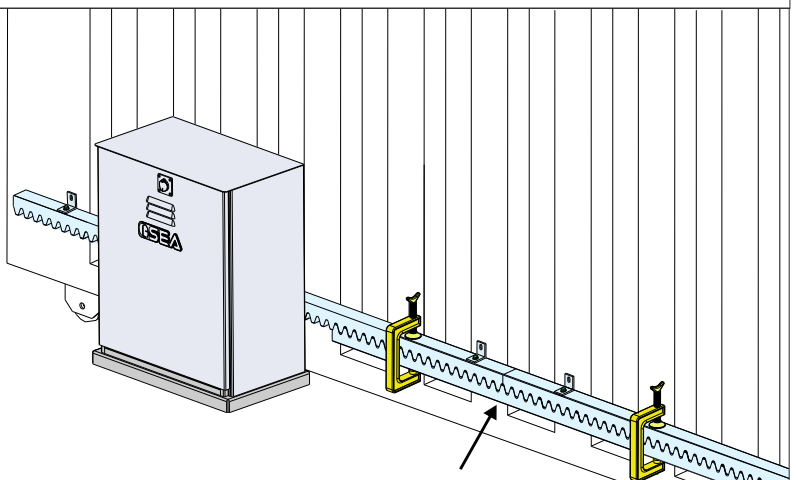

Fig. 16
- 7.6. Make sure that all the rack elements are perfectly aligned and correctly placed (**THE TEETH MUST BE IN PHASE**). It is suggested to oppose an element to two consecutive elements to ensure the perfect alignment as shown in Fig. 16